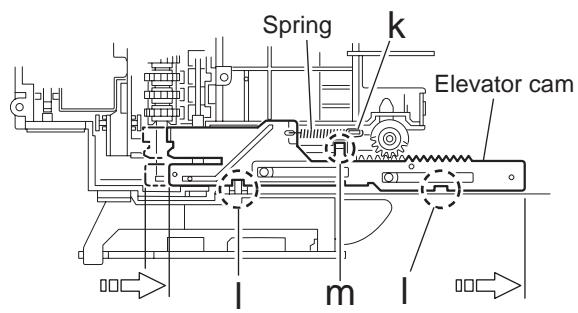

Fig.16
- (1) Bend **i** part of the bracket in a direction of the arrow by using pliers.
- (2) Remove the one screw **H** attaching the bracket.
- (3) Push and release the two tabs **j** of the gear cover through the two notches inside the side (R) assembly. Remove the gear cover outward.
- (4) Remove the spring attached to part **k** of the hook on the right side of the body.
- (5) From top of the body, turn the gear 1 clockwise to move the elevator cam rearward. Move the two slots **l** and joint **m** of the elevator cam as shown in Fig.16 and remove the elevator cam outward.
- (6) Remove the three screws **l** and detach the side (R) upward.